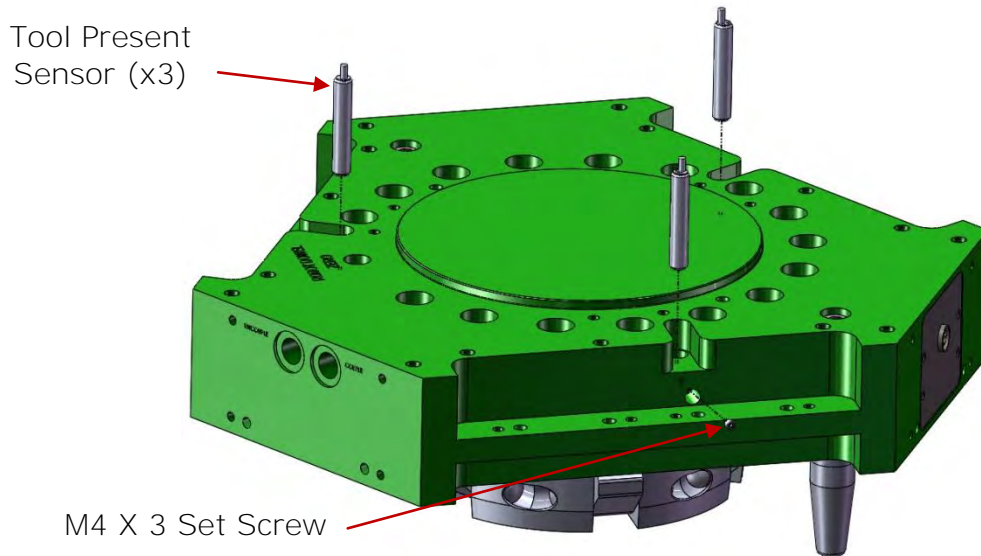

Figure 5.5-1. Tool Present Option
The ES200 Tool Changer contains built in features for Tool Present detection via proximity sensors (Figure 5.5-1). This option allows for up to three (3) Tool Present sensors to be installed and the signals to be monitored either individually or in series providing a single output signal to ensure parallelism between the Robot Adaptor and Tool Adaptor during docking.